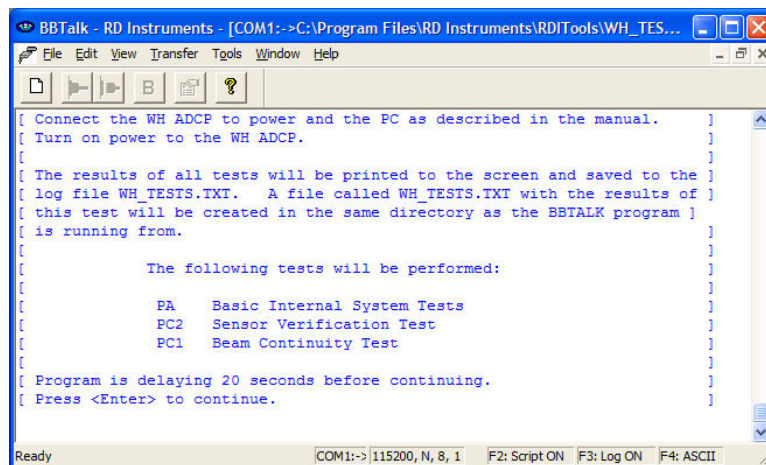

Figure 10. Running a Script File to Test the ADCP
- Follow the prompts on the screen (see Figure 10, page 16).